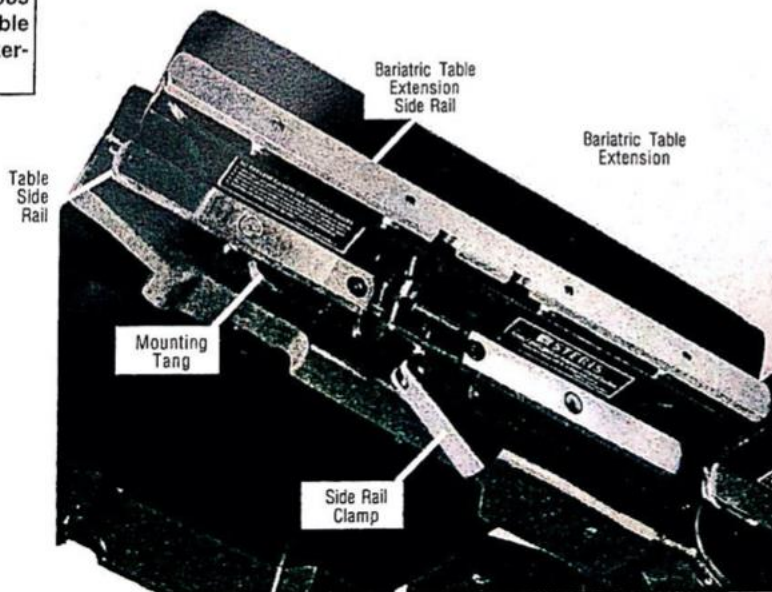

Figure 2-1. Amsco 3080/3085 SP Bariatric Table Extension Components
The Bariatric Table Extensions (see Fig. 2-1) are designed as a user installed modular system on Amsco 3080/3085 SP and Cmax Surgical Tables. When properly applied to each side of the operating table, the extensions increase the original table width by a total of eight inches (203 mm). Bariatric Table Extensions provide a stable platform for patient support and the attachment of many 3080/3085 SP and Cmax Surgical Table accessories. The Bariatric Table Extensions system is available in various sets for facility flexibility as follows:
2. Ensure extension side rail clamp (see Fig. 2-1) jaw is fully open by rotating clamp locking handle in a counter-clockwise motion (as viewed from bottom of extension).